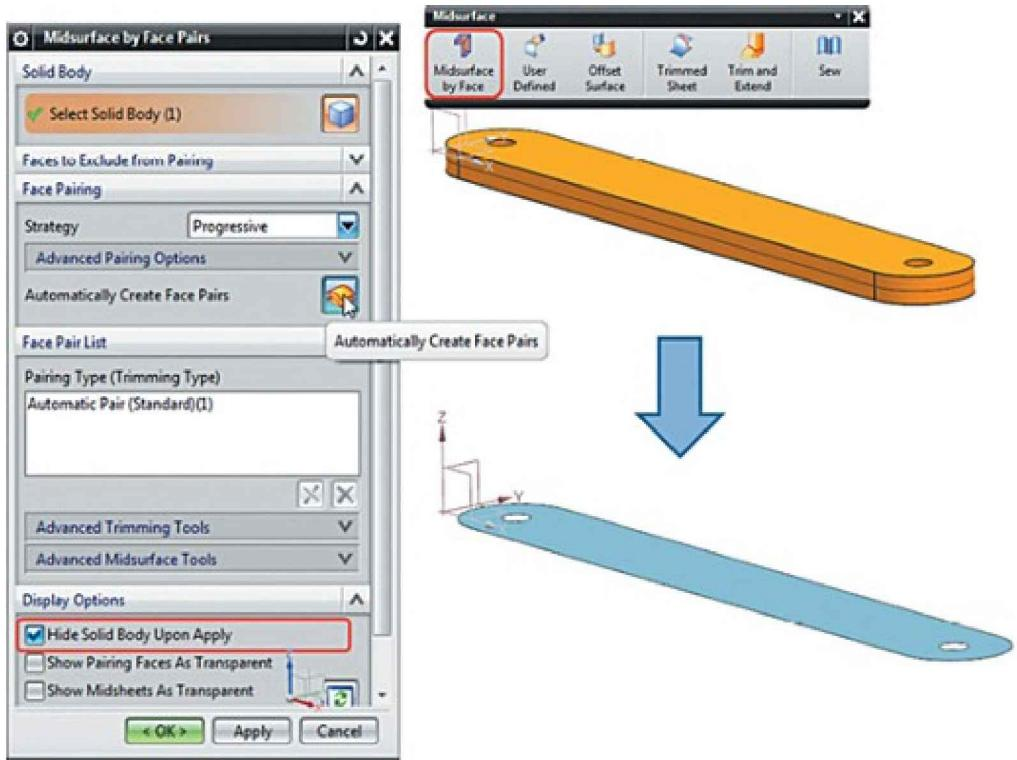

Figure 2.6. Creating a midsurface
2.3. Create a midsurface for the thin-shell body using the **Midsurface by face pairs** command on the **Midsurface** toolbar. In the dialog box, do the following (Figure 2.6):